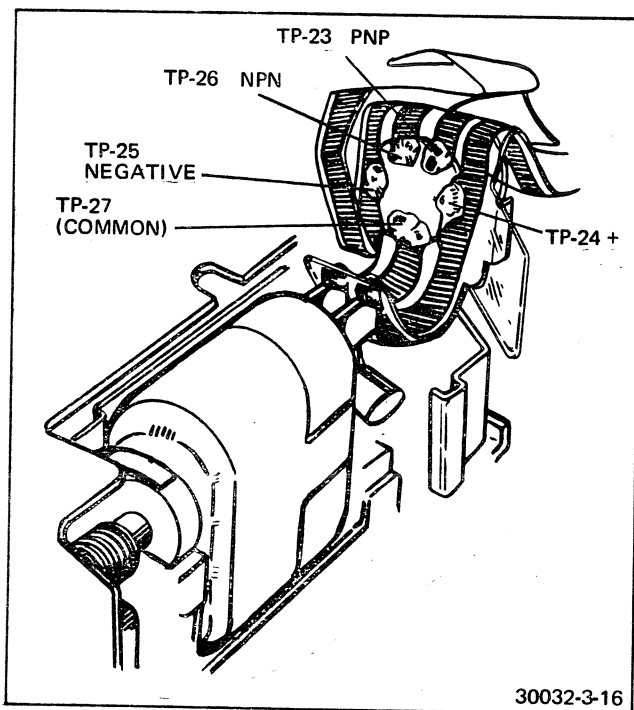

FIGURE 3-16 MCC CONNECTIONS
6. Check for a drive signal at the MCC. Set the VOM on the 1.5 VDC scale. Connect the meter to TP-25 (MCC) (–) and TP-26 (MCC NPN) (+) (Figure 3-16). Read the meter while the motor is running. The meter should read 0.6 volts. When the recock ram releases S5, the meter reading should drop to zero. If it does not, replace the MCC.